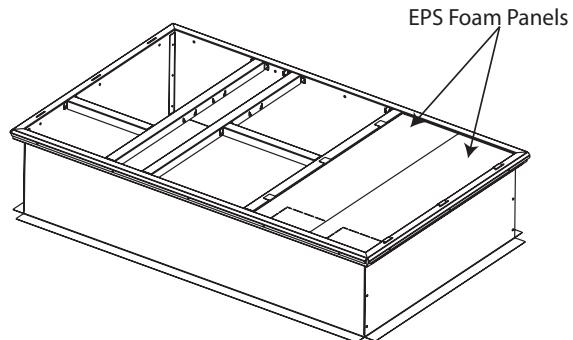
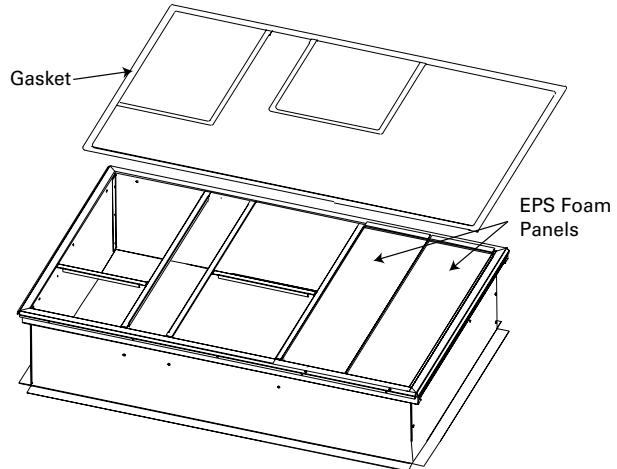
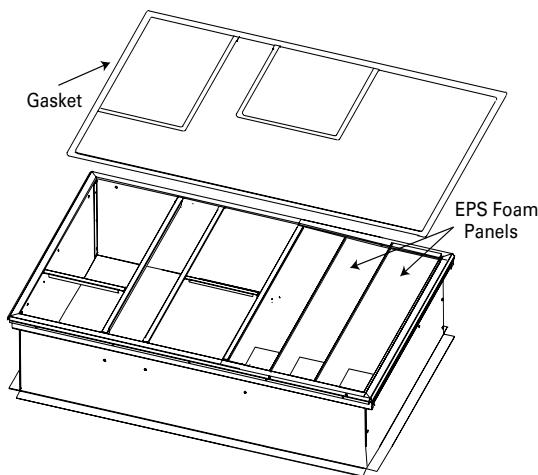

Figure 4. Step four
Figure 5. Step five
Figure 12. Step five
Note: All field fabricated panels used must be insulated.(See Figure 5 or Figure 12).
8. Install insulation and gasket. See Figure 4, p. 5 and Figure 5, p. 5.
8. Install three pieces of foam insulation and gasket. See Figure 12, p. 8.